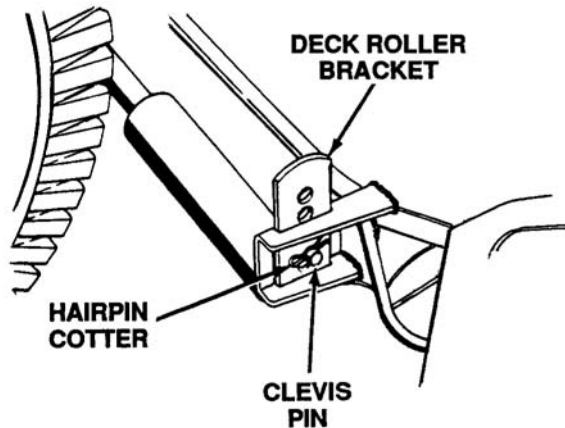

Figure 8-38. Deck Roller Bracket
5. Remove hairpin cotters and clevis pins from each side of the deck roller bracket. Raise deck one notch on each side. Secure with hairpin cotters and clevis pins just removed. See Figure 8-38.